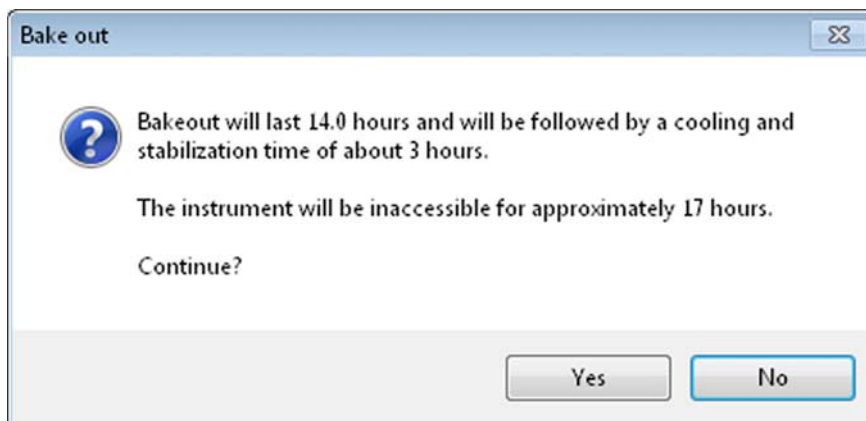

Figure 8-2. Bakeout dialog box
4. Click **Bake out**. A dialog box shows the duration of the baking procedure. See Figure 8-2. Click **Yes** to confirm the message.